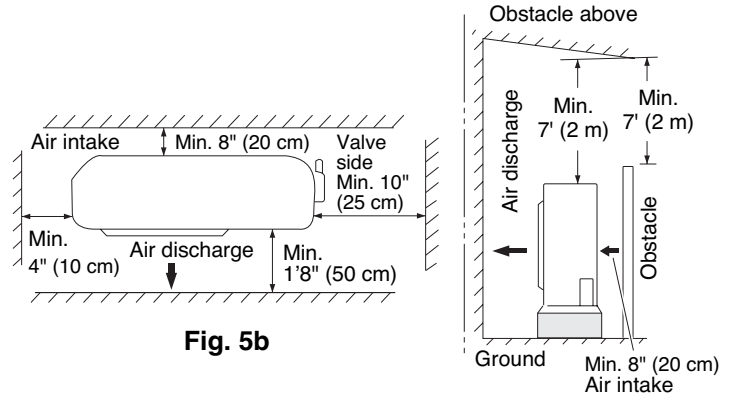

Fig. 5b
- allow enough room around the unit for air intake/ exhaust and possible maintenance. (Fig. 5b)